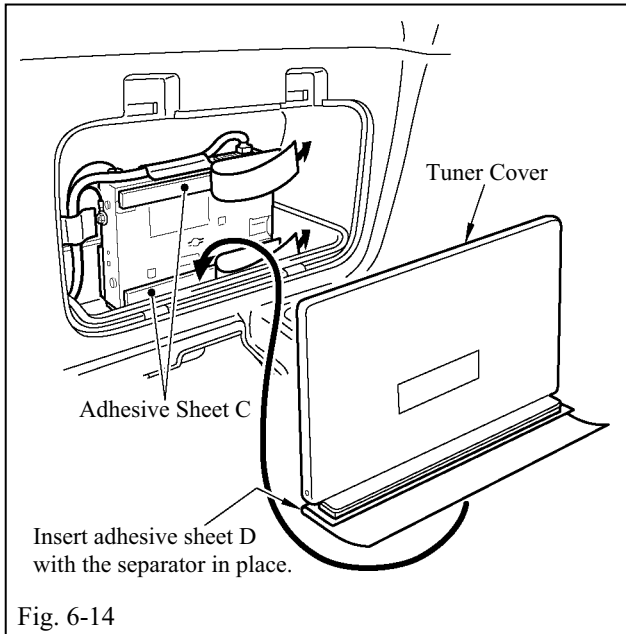

Fig. 6-14
- (1) Peel the separator from adhesive sheet C (Fig. 6-14).
- (2) Place the tuner cover inside the accessory box (Fig. 6-14).